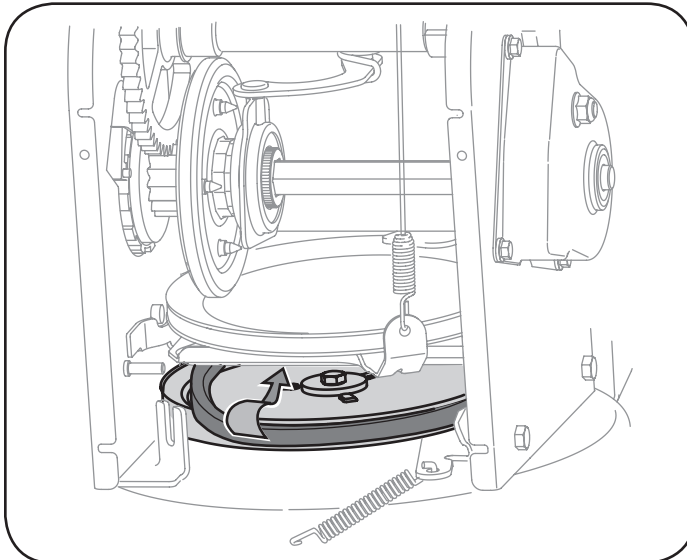

Figure 71
7. Remove the belt from around the auger pulley, and slip the belt between the support bracket and the auger pulley. See Figure 71.